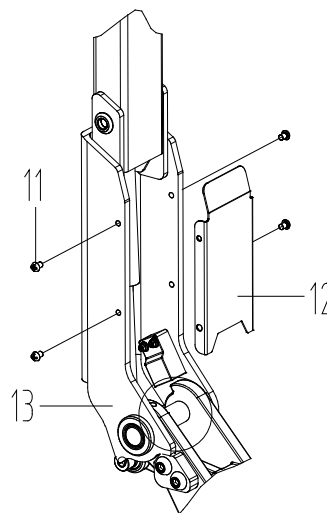

Figure 5
- As shown in Fig. 5, fix the cover plate 12 to the handle assembly 13 with screws 11. After the above steps, the handle installation is completed.